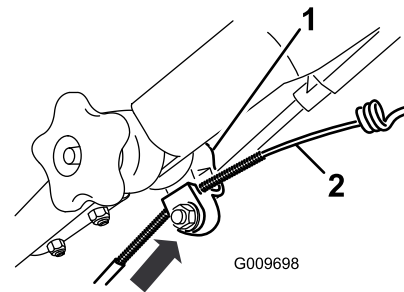

**Figure 49**
3. Pull the cable jacket downward until you remove the slack in the exposed cable (Figure 49).